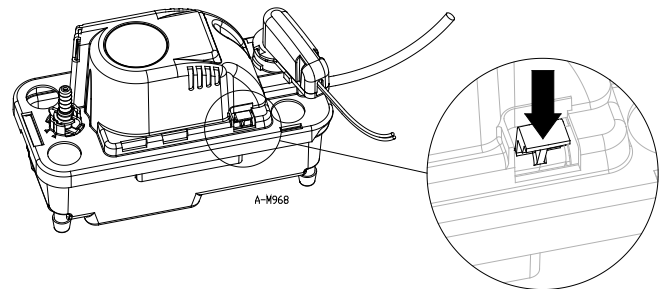

Fig. 8 (EN/FR/ES)
2. Press lightly on the external test/run lever to engage the motor (Fig. 8).